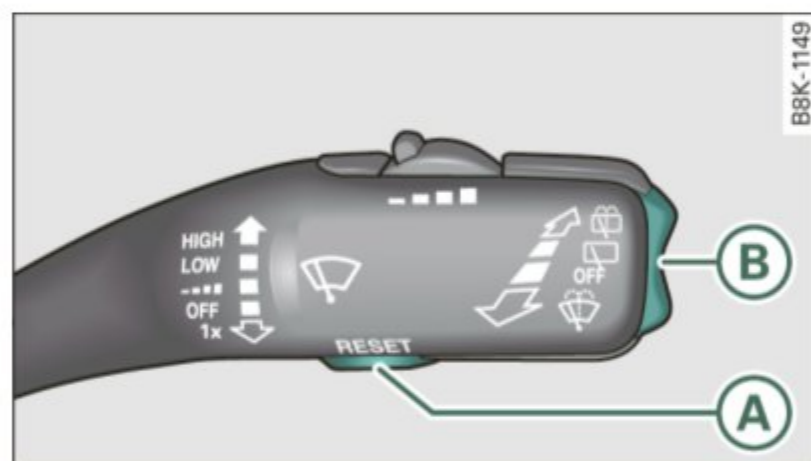

Fig. 16 Windshield wiper lever: controls for the trip computer
You can switch between the trip computer 1 and 2 and the efficiency program* by pressing the **[RESET]** button **(A)** ⇒ page 23, fig. 16.
- To display the trip computer memory levels, press the **RESET** button (A) ⇒ fig. 16 repeatedly until the desired memory level is shown in the display.
- To display trip information within a memory level, press the top or bottom part of the function selection switch (B).
- Press the **RESET** button (A) ⇒ page 23, fig. 16 repeatedly until the efficiency program appears in the display.
- In the efficiency program, press the function selection switch ⇒ page 23, fig. 16 (B) repeatedly until the other equipment appears in the display.
- To turn a fuel economy message off immediately after it appears, press the **RESET** button ⇒ page 23, fig. 16 **(A)**, or
- Press the function selection switch ⇒ page 23, fig. 16 **(B)**.